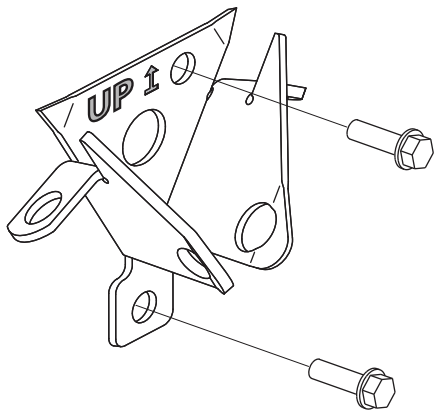

Figure 38
- Hand chain operated doors are provided with a hand chain “keeper”. Attach chain keeper to wall or guide on drive side of door as shown in Figure 38.